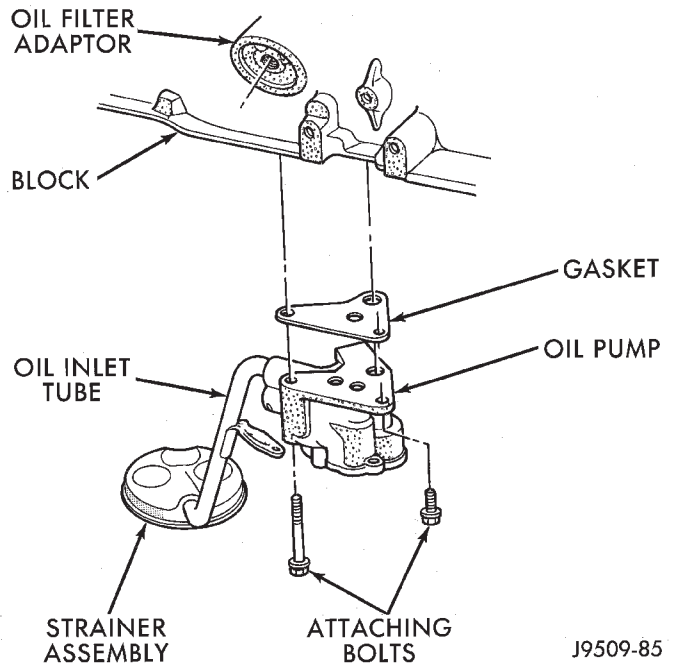

Fig. 62 Oil Pump Assembly
- (1) Drain the engine oil.
- (2) Remove the oil pan.
- (3) Remove the pump-to-cylinder block attaching bolts. Remove the pump assembly with gasket (Fig. 62).